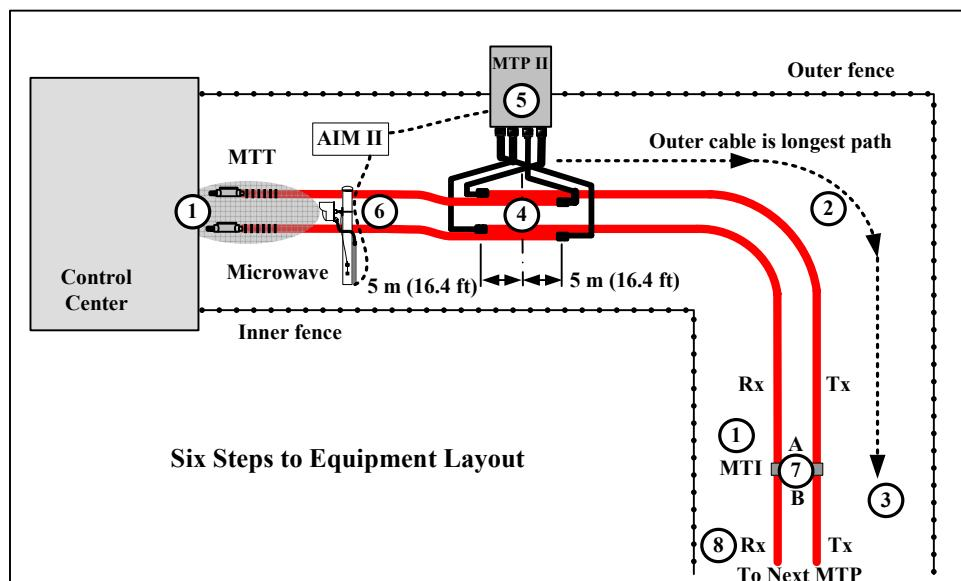

Figure 5.5 - Six Steps to Laying out a MicroTrack™ II System
This section outlines the steps for positioning the Micro Track Processor II (MTP II), laying out the sensor cable sets, and MicroTrack End of Line Terminations (MTT's) or MicroTrack In Line Terminations (MTI's) along the perimeter. Laying out a MicroTrack II system involves six steps that are outlined below and illustrated on Figure 5.5.
- Outer (or longest) sensor cable. Stake the outer sensor cable start point 5 m (16 ft.) back from the centerline of each MTP II (point #4 in Figure 5.5). Stake the corner points and end points where MTT's or MTI's will be installed. Stake the position of the cable closest to the perimeter fence first. The position of this cable is based on the criteria set out in Sections 5.8, 5.9 and 5.10. To allow for measurement errors and site irregularities do not exceed a 90 m (295 ft.) or 190 m (623 ft.) length depending on whether the 110 m or 210 m sensor cable assemblies will be used.